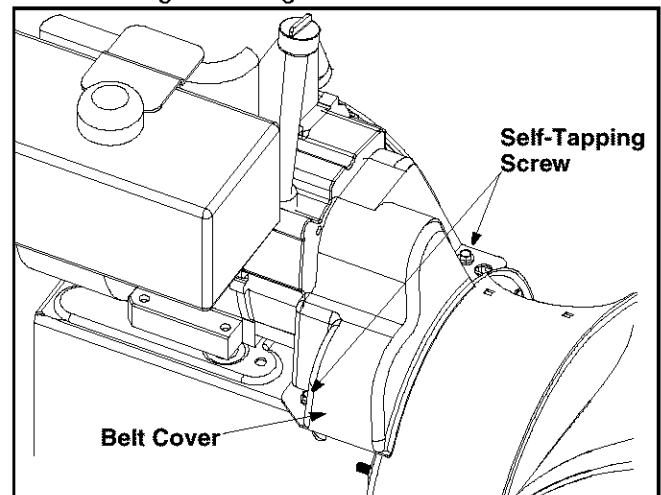

Figure 22
- Remove plastic belt cover from front of the engine by removing the two self-tapping screws. See Figure 22.